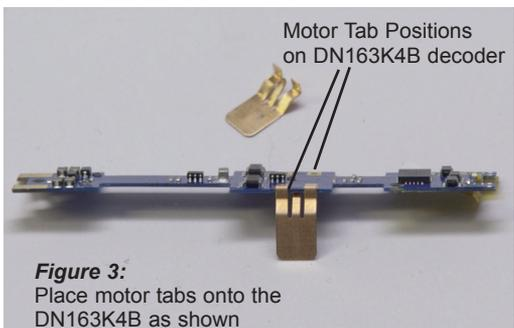

Figure 3:
3. Carefully remove the motor tabs from the factory light board. The motor tabs attach to the board at right angles with slight spring tension. Reinstall these motor tabs onto the DN163K4B decoder as shown in Figure 3